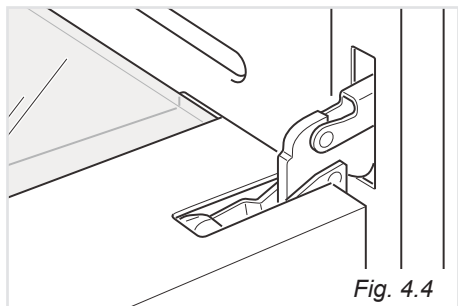

Fig. 4.4
- Open the door to the full extent (Fig. 4.4).
- Open the door to the full extent (fig. 4.4).